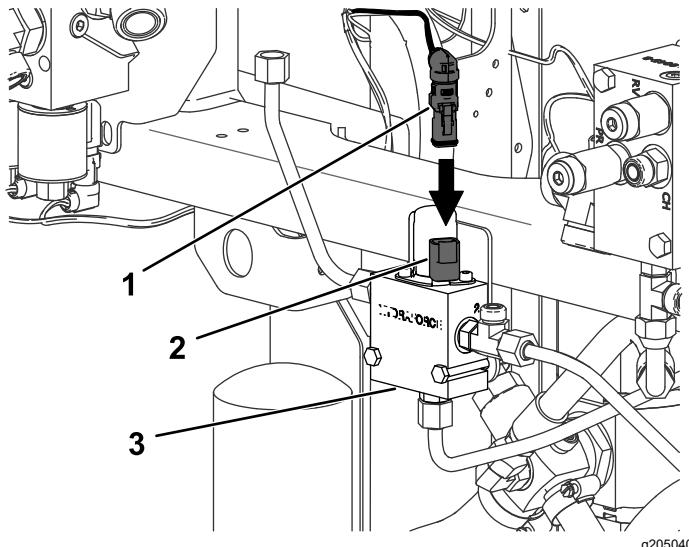

Figure 31
12. Connect the angled plug from the new wire harness into the coil on the 3-way manifold (Figure 31).